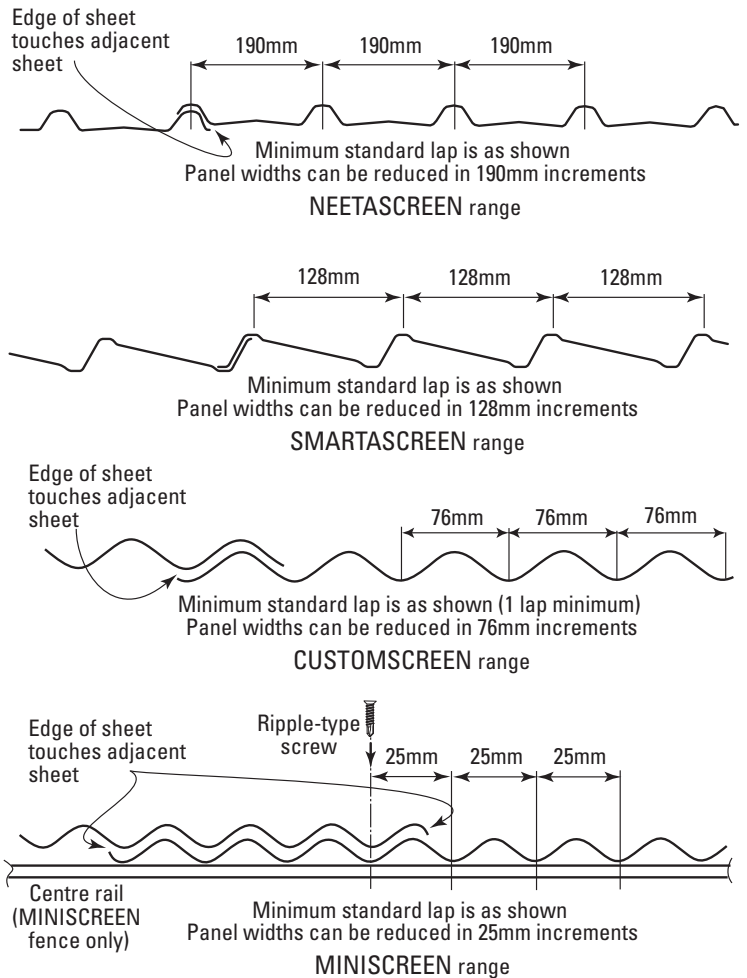

Figure 12.2
A fence panel can be reduced from the nominal width, without cutting infill sheets, by the increments shown in Figure 12.2. Rails and lattices must be cut to suit a narrow fence panel.
When the second infill sheet is placed, make sure you place the sheet to allow for the overlap (Figure 12.2). At this stage some minor adjustments may be necessary to get the lap to sit correctly or to fit the sheet into the rail. Gently bump the fence sheet into position as required.
Only the MINISCREEN fence style requires a centre rail. For MINISCREEN fences, fasten centre rails halfway up the infill sheets. Use at least seven (7) Ripple-type screws through the infill sheets into the centre rail. One screw should pass through the laps (Figure 12.2).